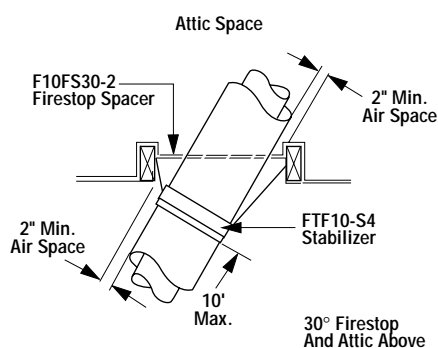

Figure 23
It may be necessary to assemble the chimney at 30° when passing through the floor or ceiling area. Use the F10FS30-2 firestop spacer as shown in Figures 23 and 24. Support the chimney at floor or ceiling penetration with a FTF10 stabilizer if distance of chimney below ceiling is 10' or more. Maintain 2" minimum air space to combustibles from chimney sections.
**Step 1.** Use Offset Chart to determine amount of horizontal offset (A) and height (B) for various chimney section assemblies.
**Step 3.** Use Elevation Chart as job estimator only. Add necessary firestop spacers and stabilizers as required. Firestop spacers must be used as shown in **Figures 23 and 24** and stabilizers as shown in **Figure 29**.